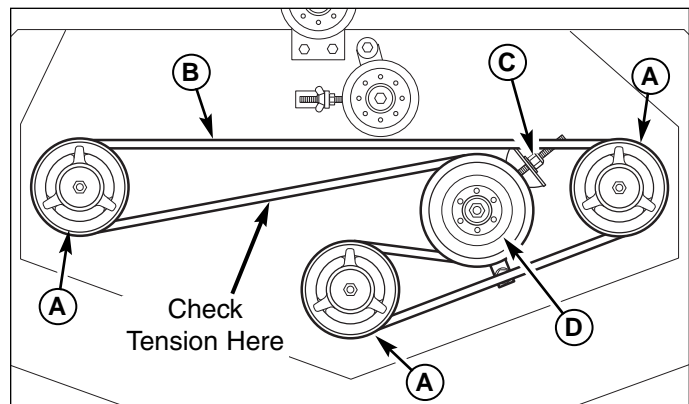

Figure 25. Spindle Drive Belt
2. Loosen the nylon nut (C, Figure 25) to release the belt tension on the spindle drive belt (B).
5. Install the spindle drive belt on the spindle pulleys and the idler pulley. Tighten the nylon nut (C, Figure 25) until a 10 lb. (44.5 newton) force is required to deflect the belt 1/2" (1,27cm) between the idler pulley and right-hand spindle pulley. See Figure 25.